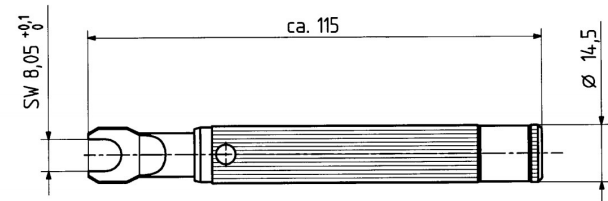

Figure 3 Torque Wrench: 74Z0079-NIST HUBER+SUHNER
- 4.3 Recommended torque wrench for SMA brass connectors (Figure 3)